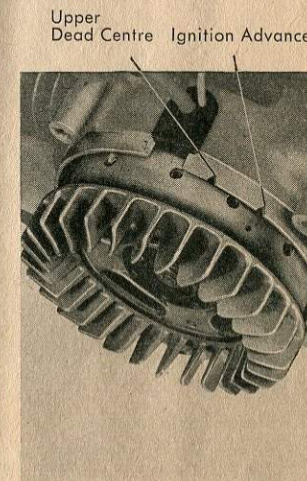

Figure 6: Flywheel Magneto
25. **To check the correct ignition setting:** Ignition advance 21° before upper dead centre, i.e. 1.65 mm piston travel. There are two notches in the engine casing above the wheel carrying the magneto poles indicating the upper dead centre position and the ignition advance of 1.65 mm (Figure 6).